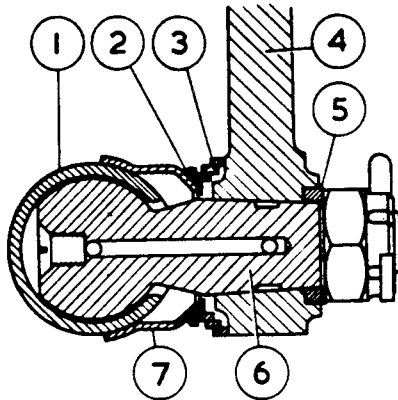

FIG.1. SECTION - BALL JOINT-SIDE STEERING TUBE REAR END.
a) Remove the castle nut and the locating washer, 5 Fig.1 from the ball end pin(6), then give the bottom of the pendulum lever (4) a sharp tap upwards, i.e. at right-angles to the axis of the ball pin. This should release the pin. A large steady block should be held against the upper end of the lever to absorb the shock, and a drift used on the lower end to prevent damage to adjacent parts.
c) Collect the pressure spring 3, Fig.1, the sealing disc, (2) and mud excluder (7).
NOTE: When re-connecting the side steering tube to the pendulum lever, it is important that the mud excluder (7 Fig.1) is placed the correct way round, i.e. with the longest plain portion pointing
towards the rear end of the tube. After placing the ball pin in the pendulum lever, make sure that the flats and lugs of the locating washer (5 Fig.1) correctly engage with the corresponding flats and slots on the ball pin and in the lever.